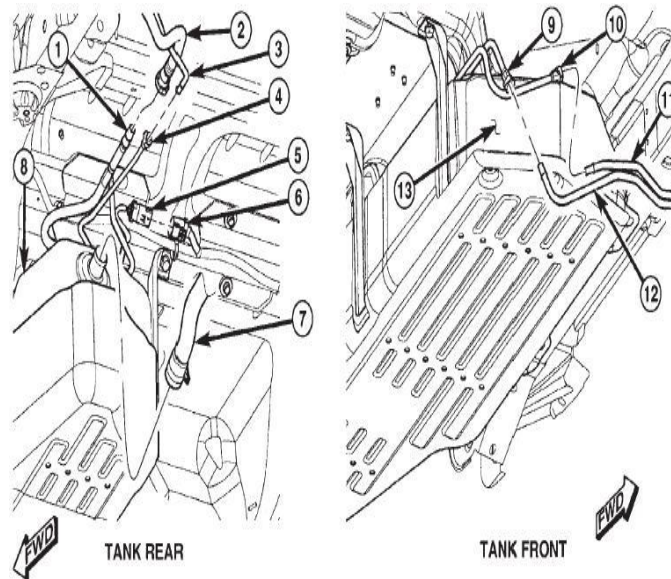

Fig. 10 Fuel Tank
8. Connect fuel pump module electrical jumper connector (5) to body connector (6) (Fig. 10).